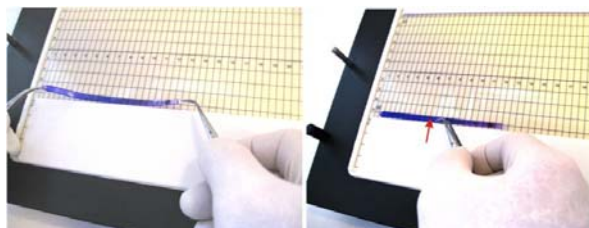

Fig. 4
11. Place the IPG-strips gel-side facing down, anodal sides to the right, into the slots of the gel and push them carefully towards the anode edges of the slots (fig. 4). Slide along the backing of the strips with the forceps to ensure good contact to the bottom of the slots.